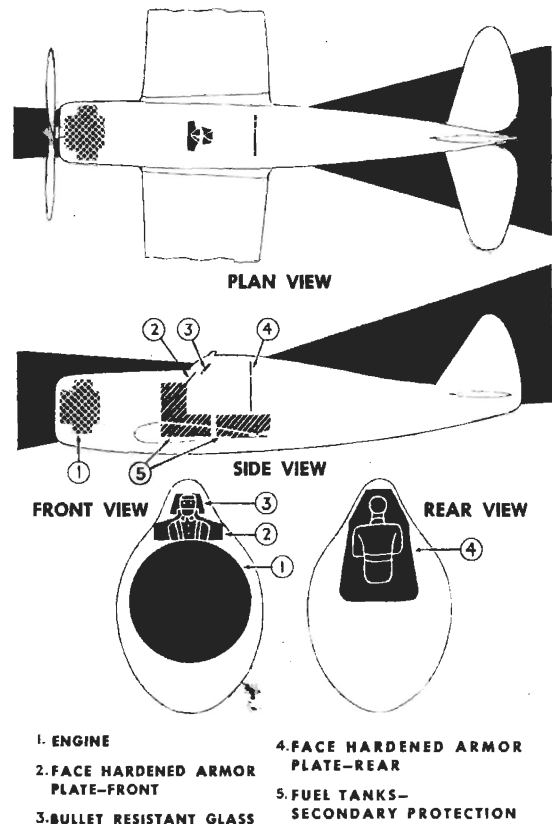

Figure 4—Angles of Personnel Protection
(1) ARMOR.—Front and rear armor protection sufficient to withstand U. S. .30, German, .312, and Japanese and Italian .303 (7.7mm)-caliber fire by direct right angle hit is provided for the pilot. Enemy fire originating within the areas graphically illustrated in figure 4 will not reach the pilot.